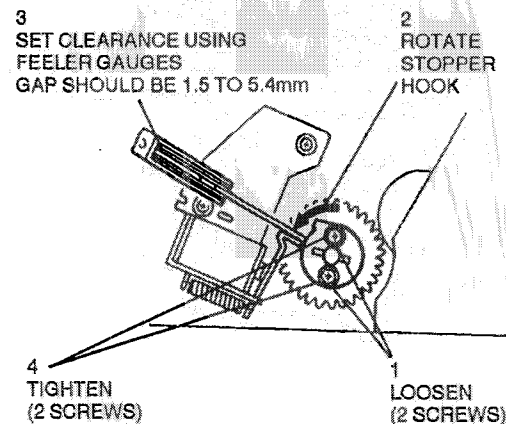

Figure 5. Adjusting stopper hook clearance
- (Figure 5) Turn the cassette feed roller one more turn, until the claw of the clutch spring touches the armature of the cassette feed solenoid, then adjust the clearance between the armature and the stopper hook.